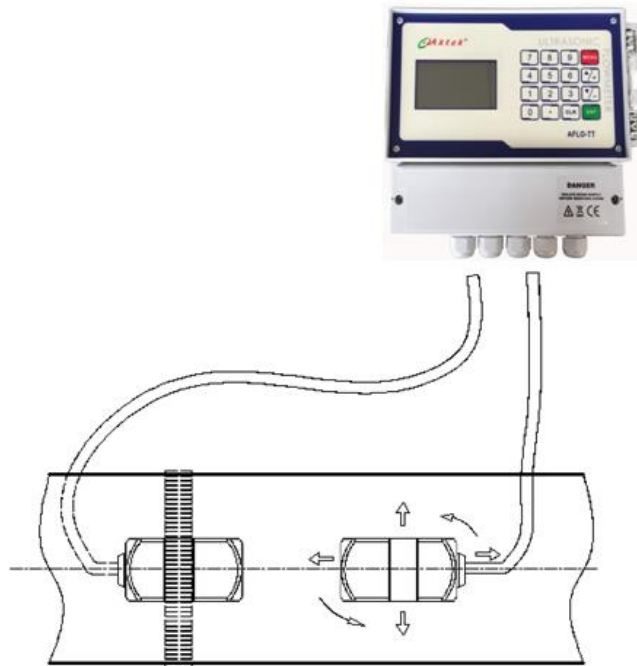

Figure 2.6 Z-Mode transducer placements
6. Place the downstream transducer on the pipe at the calculated transducer spacing. See **Figure 2.6**. Using firm hand pressure, slowly move the transducer both towards and away from the upstream transducer while observing Signal Strength. Clamp the transducer at the position where the highest Signal Strength is observed. Signal Strength of between 60